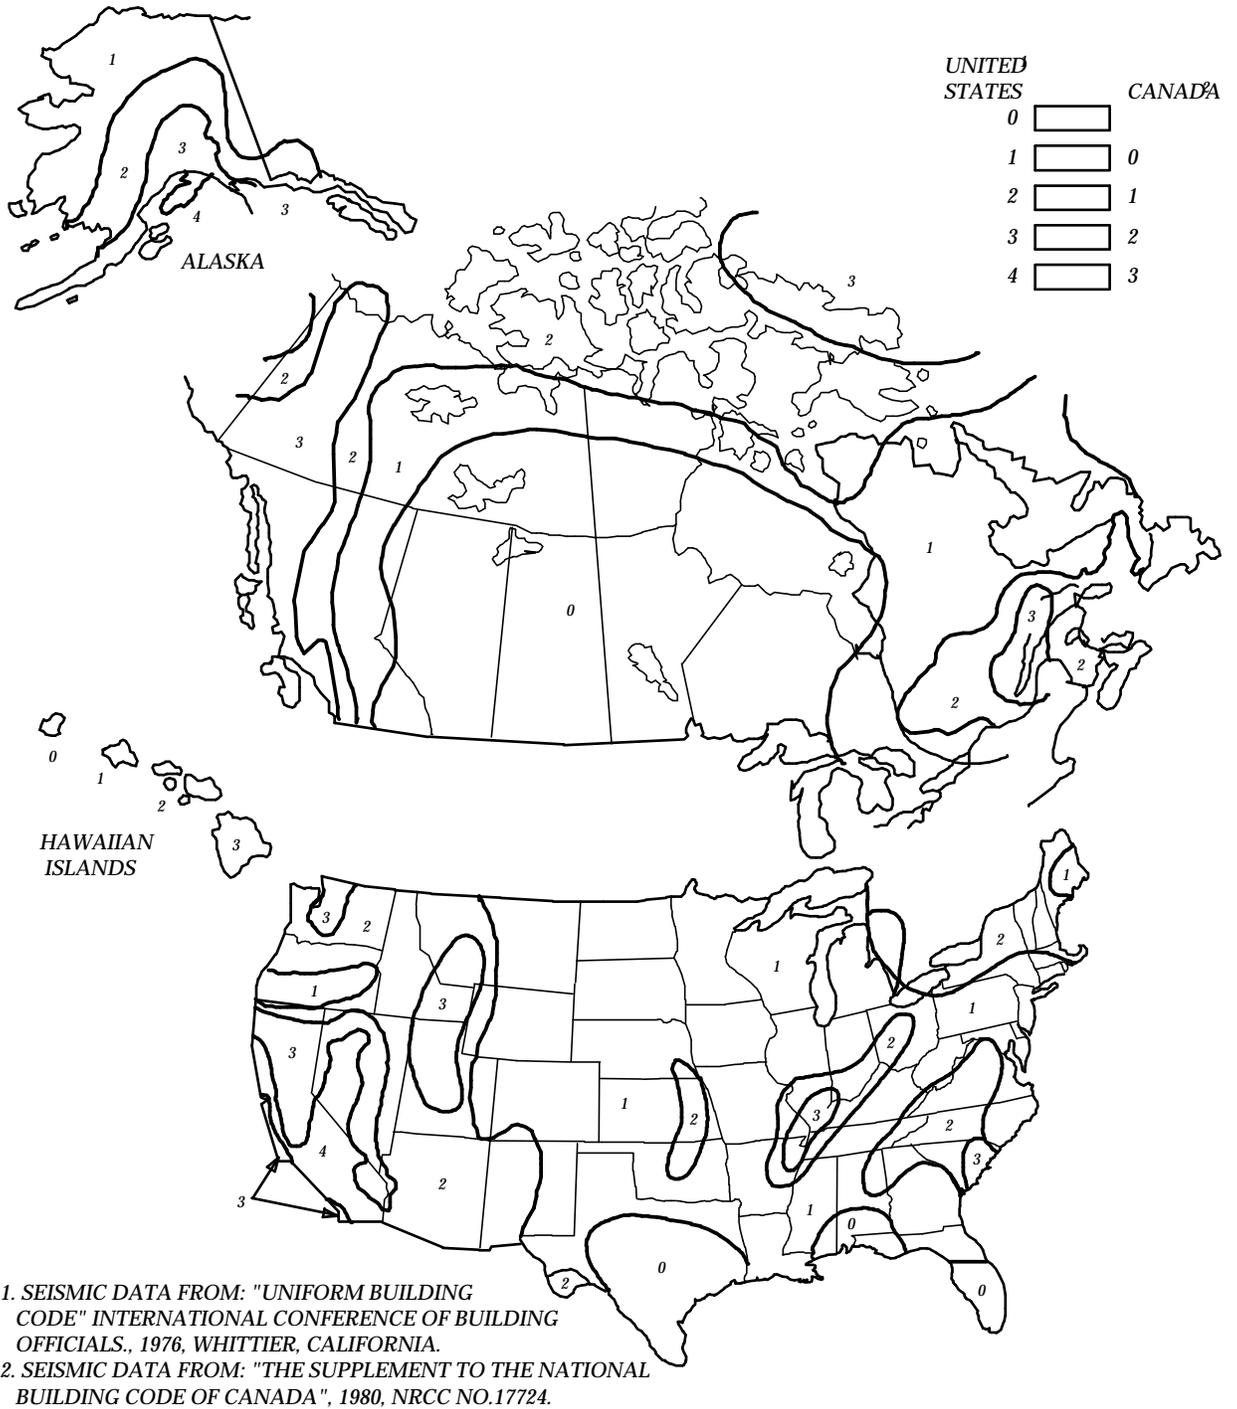

FIGURE 14. Earthquake Environment (North American Continent)
When earthquake or disaster bracing is required by law, or when local engineering feels that bracing is necessary, the system cabinet can be bolted to the floor. Figure 14 shows the zones in the North American continent where bracing may be desirable.
**Note:** A greater susceptibility of an area to earthquakes is indicated by a higher number in Figure 14. In the United States, 0 represents the lowest susceptibility and 4 represents the highest. In Canada, 0 represents the lowest susceptibility and 3 represents the highest.